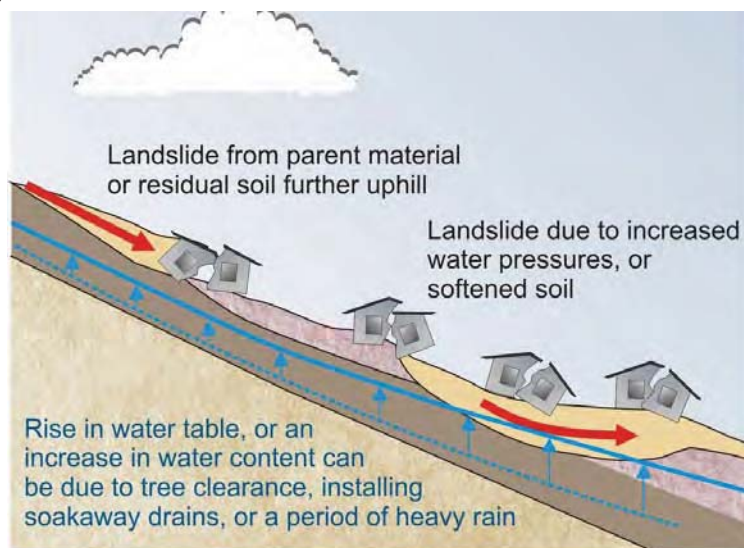

Figure 2
- 1) Falls of the parent material or residual soil from above, due to natural weathering processes (Figure 2).
- 2) Increased moisture content and consequent softening of the soil, or a rise in the water table. These can be due to excessive tree clearance, ill-considered soak-away drainage or septic systems, or heavy rainfall (Figure 2).